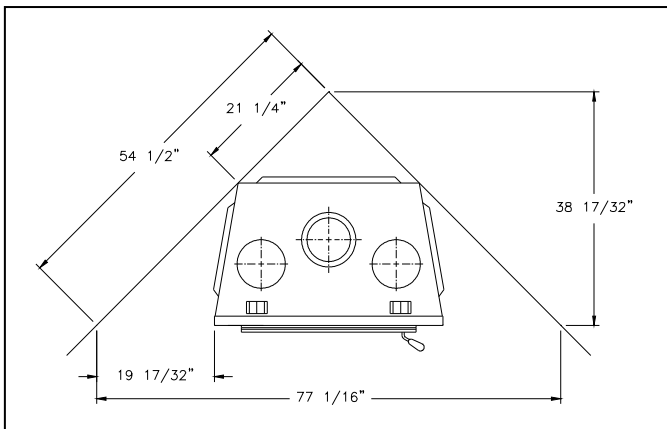

Figure 8
The construction of the framing, facing, and mantel must be in accordance with the standards and the following illustrations (figures 8 to 12):
3. Frame the fireplace with vertical studs at the sides of the fireplace running from floor to ceiling (see figure 8). If combustible facing is to be used, position the studs back from the front edge of the fireplace, a space the thickness of the facing material so that the facing can be installed flush with the fireplace facing. Frame headers between the vertical studs only as follows: